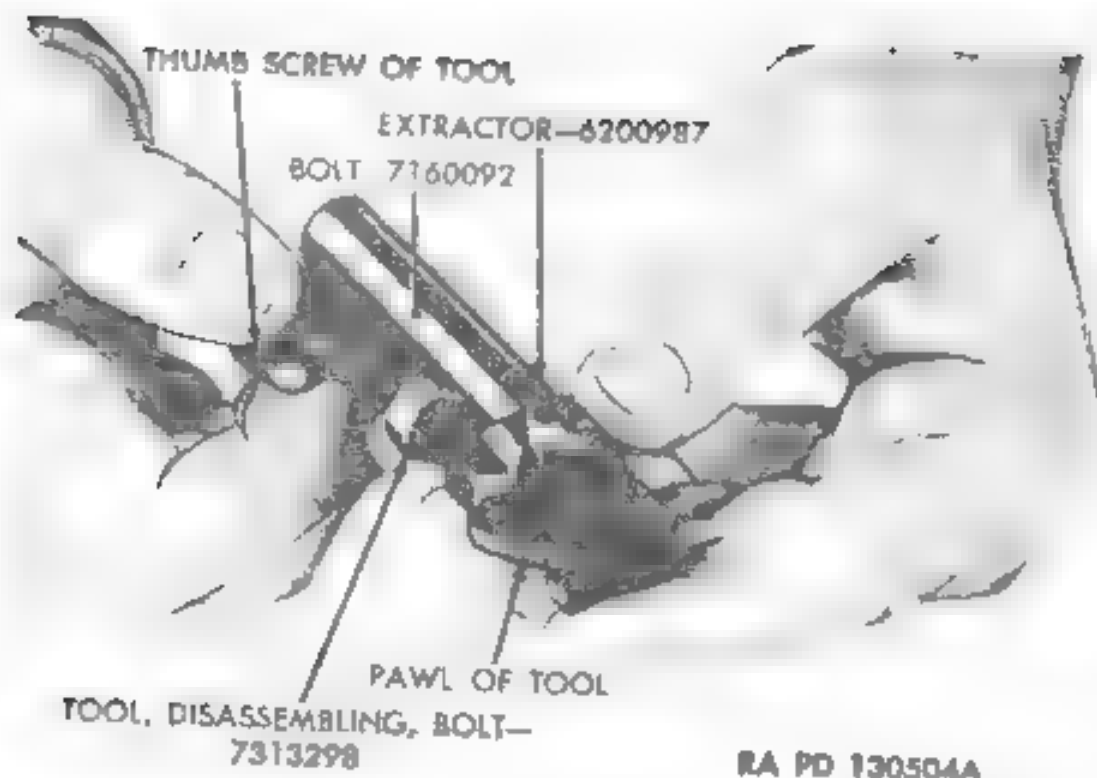

Figure 60. Disassembling bolt
b. Assemble bolt disassembling tool 7313298 (fig. 6) to the bolt (fig. 60), with the unslotted tang of the tool pawl resting under the bevel of the extractor plunger. (Bolt disassembling tool 7313298 is supplied to organizational personnel and to ordnance field and depot maintenance personnel.) While pressing down on the unslotted tang of the tool pawl to make certain that it stays under the bevel of the extractor plunger, turn the thumb screw until the extractor plunger is
- c. Place bolt disassembling tool 7313298 on bolt (fig. 60) so that slotted tang of its pawl rests on extractor plunger. (The bolt disassembling tool 7313298 is supplied to organization personnel and ordnance field and depot maintenance personnel.) Turn thumbscrew of tool until plunger is depressed; at the same time, the ejector is depressed into bolt by the tool.